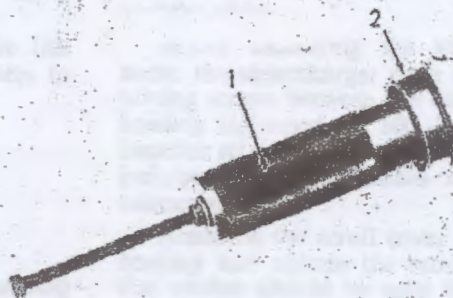

FIG. 128
Using Pusher Set, J-6688 (1, Fig. 128), press the large ball bearing (2) onto the input shaft until it is seated against the shoulder (the lettering on the bearing should face down away from the oil pump).